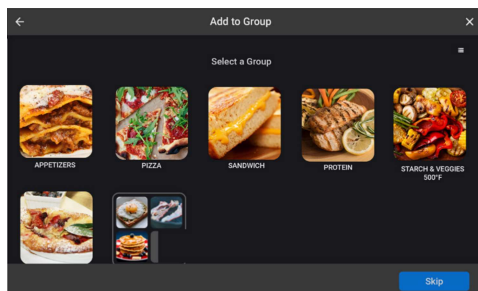

Figure 33: Select Groups to Place Recipe Into
5. Select a recipe (or recipes) to add to the group (Figure 33, below).